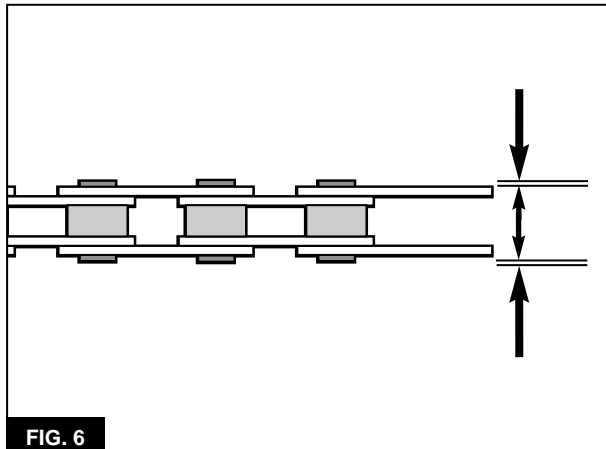

FIG. 6
7. Turn the tool handle, and drive the rivet through the chain until the rivet is centered within the link. The rivet is properly installed when an equal amount of rivet protrudes from the outside of each outer side plate (**Figure 6**).